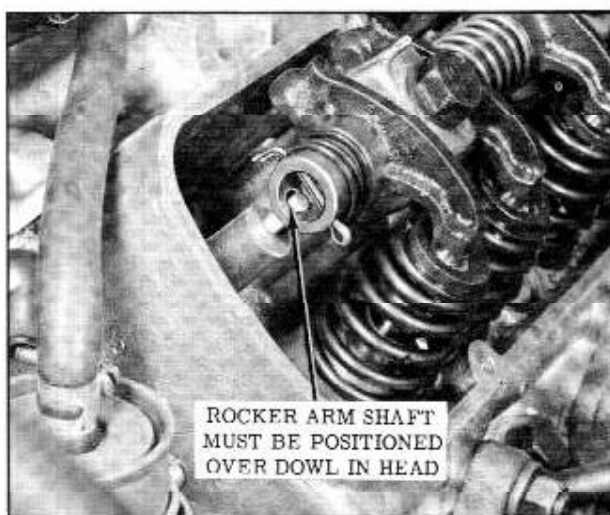

Fig. 8-9 Rocker Arm Shaft Position
1. Position rocker arm shaft assembly on cylinder head and align brackets with mounting bolts. Shaft goes on a dowel on head. (Fig. 8-9)